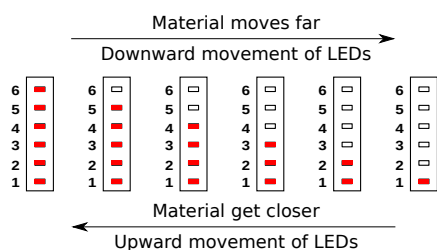

Figure 30: Demonstration of LED Bar Display
- Display Mode: The display mode shows the material distance from the instrument's probe. The movement of LEDs in upward direction depicts the movement of application media towards Coat-Endure's Probe and vice-versa, as shown in Figure 30.